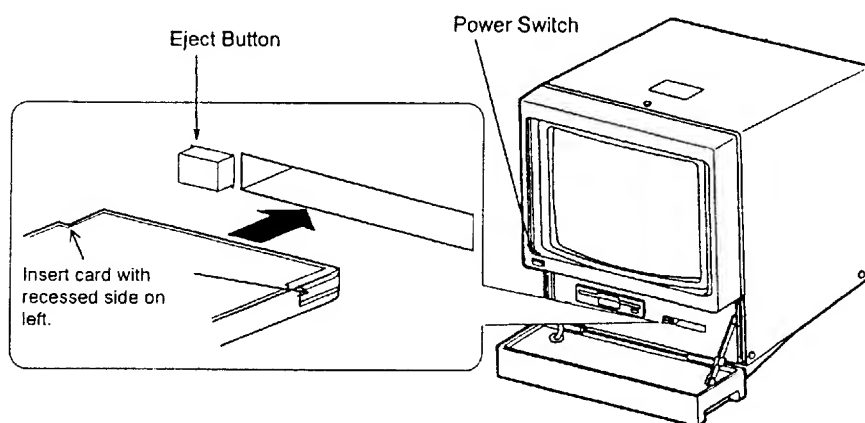

Figure 1-5 Display unit, keyboard panel opened
- 2) Insert the chart card in the memory card drive as shown in Figure 1-5.